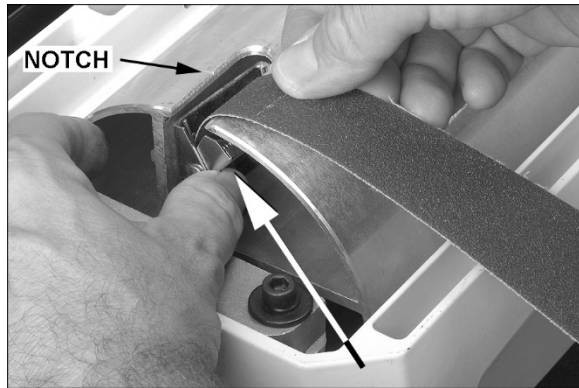

Figure 6-7
1. Press fastener lever (Figure 6-7) on outboard (left) end of drum and insert tapered end of abrasive through slit in fastener, as shown. Align tapered edge of abrasive strip with left edge of drum. Insert enough strip so that the right edge aligns with the reference notch; this will ensure the proper length of strip to be secured at the opposite end of the drum.